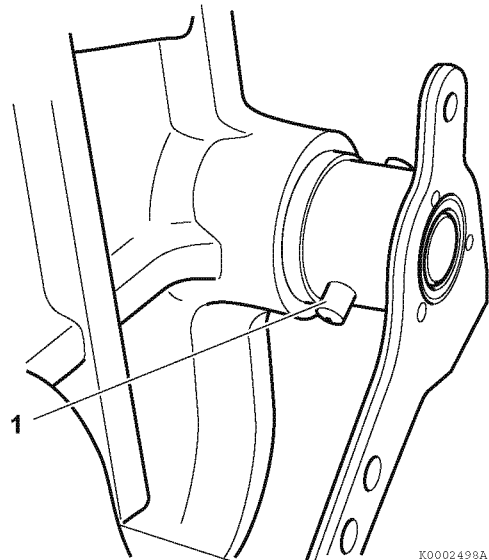

Figure 6-81
3. Remove the pin (1, **Figure 6-81**) fastening the speed control lever to the throttle shaft. The pin is tapered and must be driven out in the correct direction. Use a pin punch to drive the tapered pin out. Use square solid blows because the pin is held very tightly in the hole.